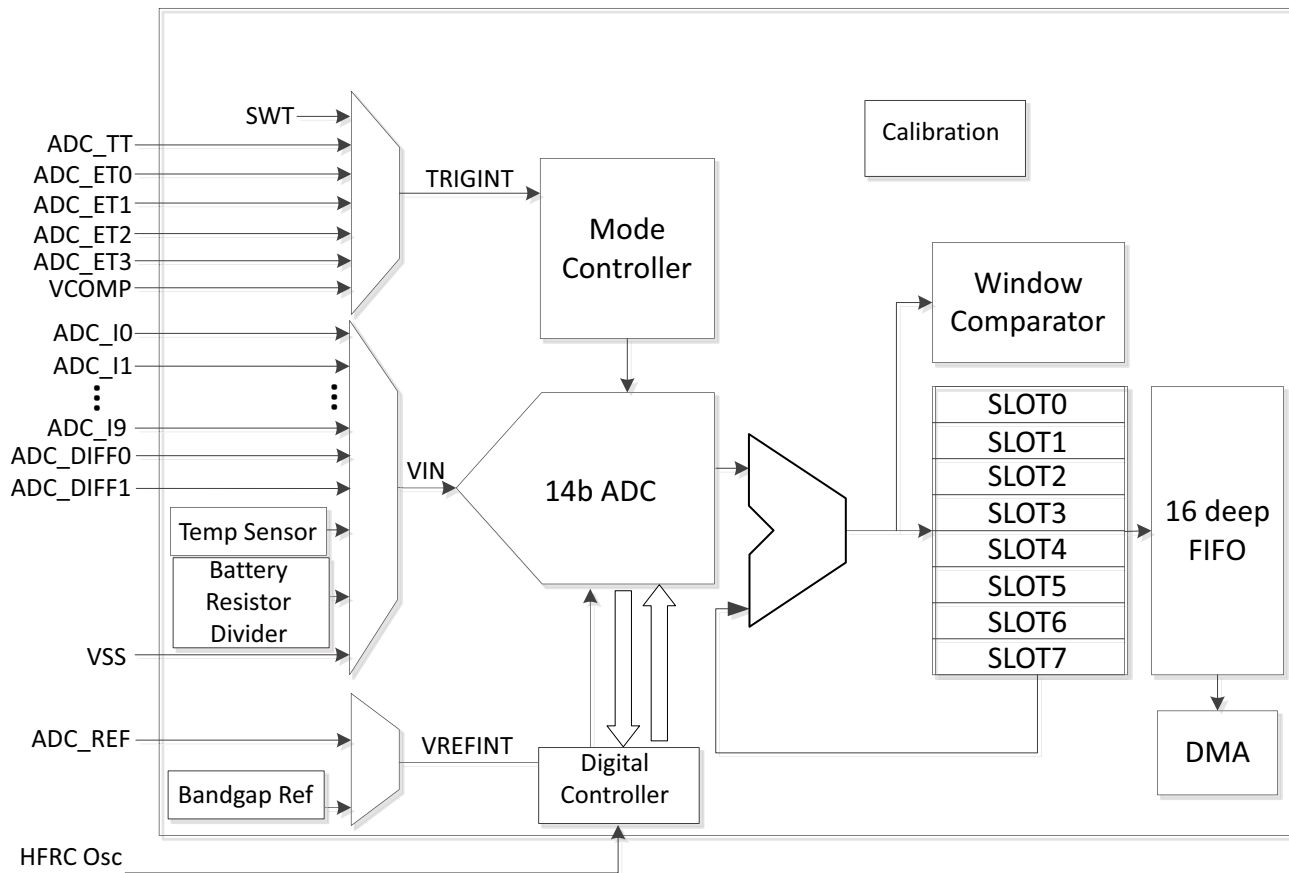

Figure 91. Block Diagram for ADC and Temperature Sensor
The Analog-to-Digital Converter (ADC) and Temperature Sensor Module includes a single-ended 14 bit multi-channel Successive Approximation Register (SAR) ADC as shown in Figure 91.
As shown in Figure 91, the ADC block contains a channel analog multiplexer on the input port to the analog to digital converter. Twelve (12) of the GPIO pins on the Apollo3 Blue SoC can be selected as analog inputs to the ADC through a combination of settings in the PAD configuration registers in the GPIO block and settings in the configuration registers described below.